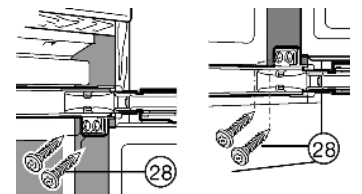

Fig. 19
- ▶ Screw chipboard screws Fig. 19 (28) on both doors at the top and at the bottom through the hinge plates.